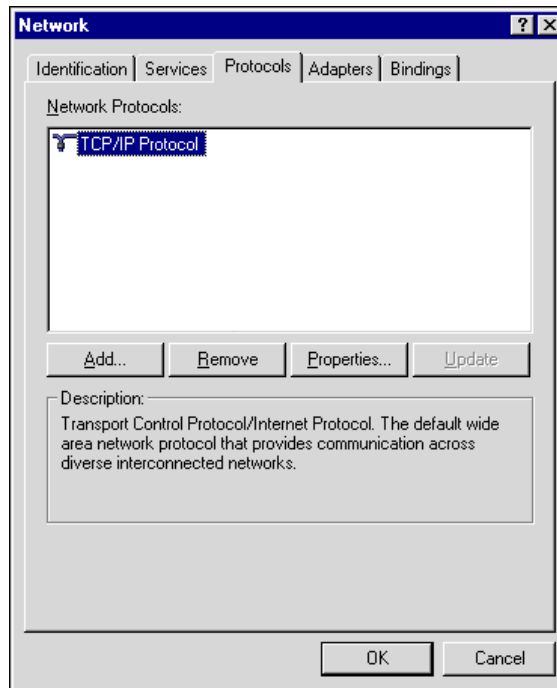

Figure 6. Network Dialog Protocols Tab
- d. Select the Protocols tab (Figure 6).